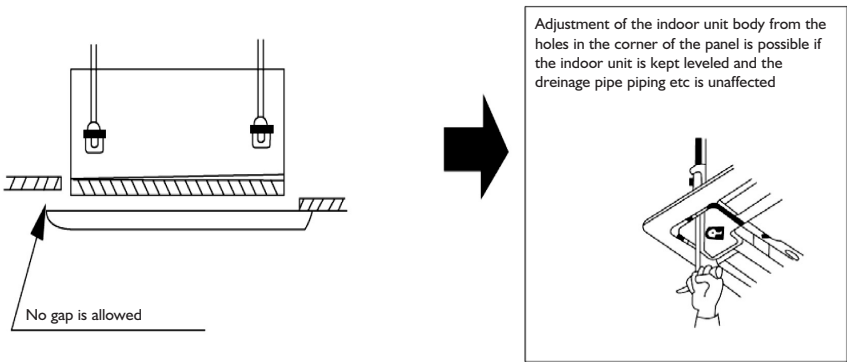

Fig 6
2. If gap is still left between the ceiling and the panel after screwing the screws, readjust the height of the indoor unit body (Refer to Fig.6)